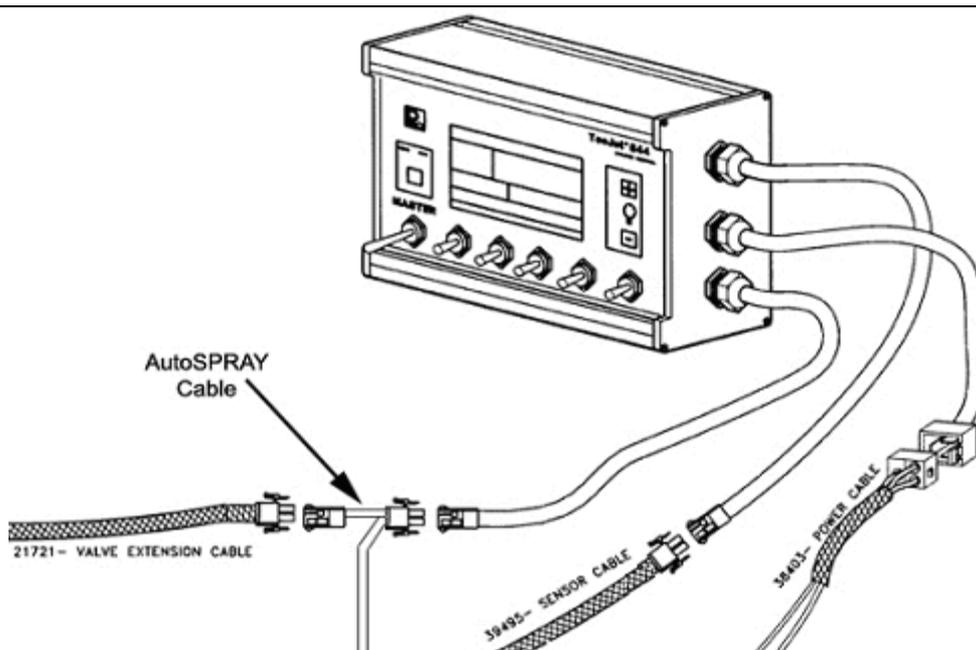

Figure 2: Layout of typical AutoSPRAY installation
The layout of the cable installation is shown in Figure 2.
4.	Plug the supplied 1-2820 TeeJet 844 AutoSPRAY cable in between the connectors which were disconnected in Step 3, as shown in Figure 2.